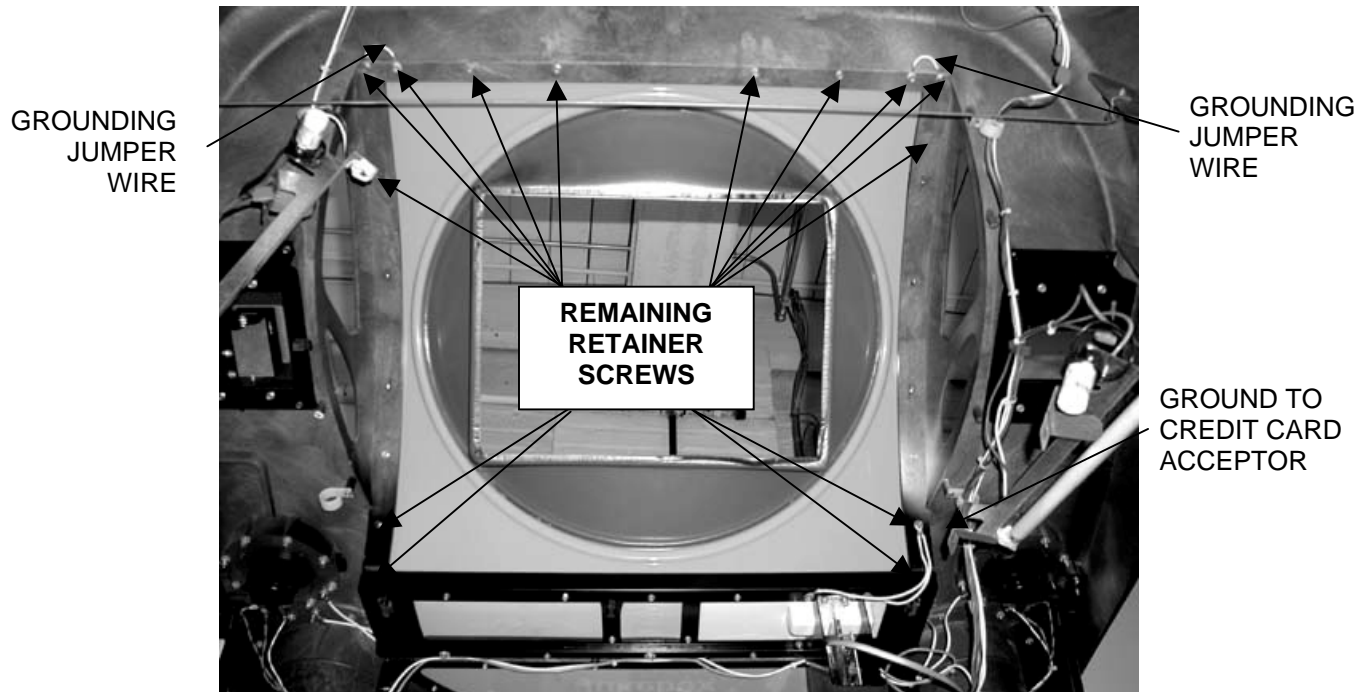

Figure 11 - Removing Bezel Retaining Screws
3. Remove the remaining screws securing the monitor bezel keeping the grounding wires and their screws together. Refer to *Figure 11*.